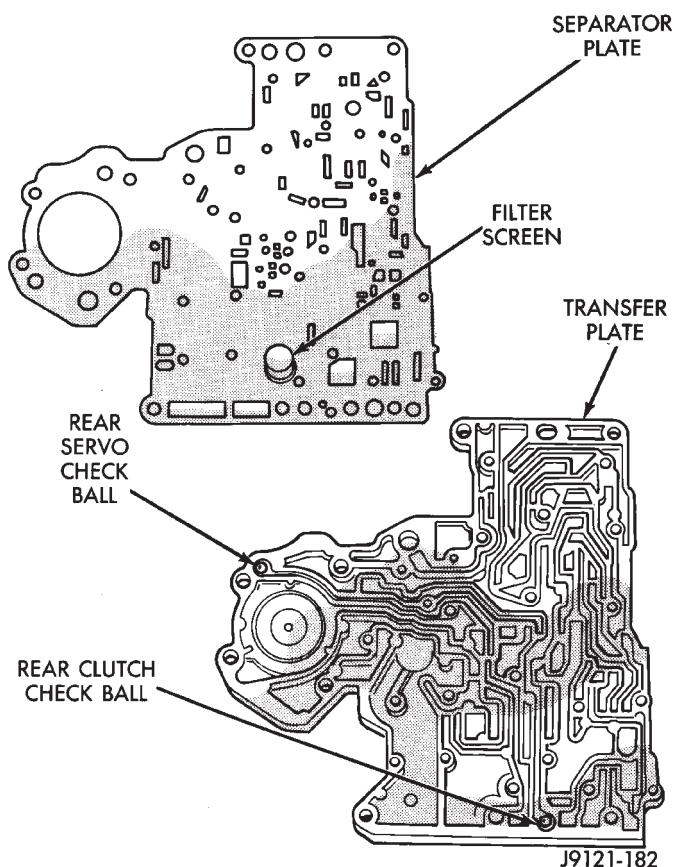
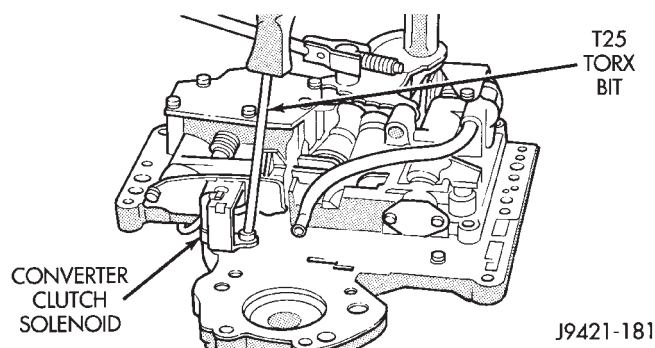

Fig. 110 Transfer And Separator Plates
Fig. 115 Installing Converter Clutch Solenoid
(16) Note position of filter, solenoid and rear clutch/rear servo check balls for assembly reference (Fig. 110).
(1) Lubricate valve body bores, valves and plugs with ATF Plus, or Dexron II™ transmission fluid.
(2) Insert rear clutch and rear servo check balls in transfer plate (Fig. 110).
(3) Install filter screen in separator plate (Fig. 110).
(4) Align and install separator plate on transfer plate. Verify check ball position before installing separator plate on transfer plate.
(5) Install new O-ring on converter clutch solenoid and insert solenoid in separator plate (Fig. 115). Then secure solenoid in position with attaching screw. Tighten screw to 4 N·m (35 in. lbs.) torque.